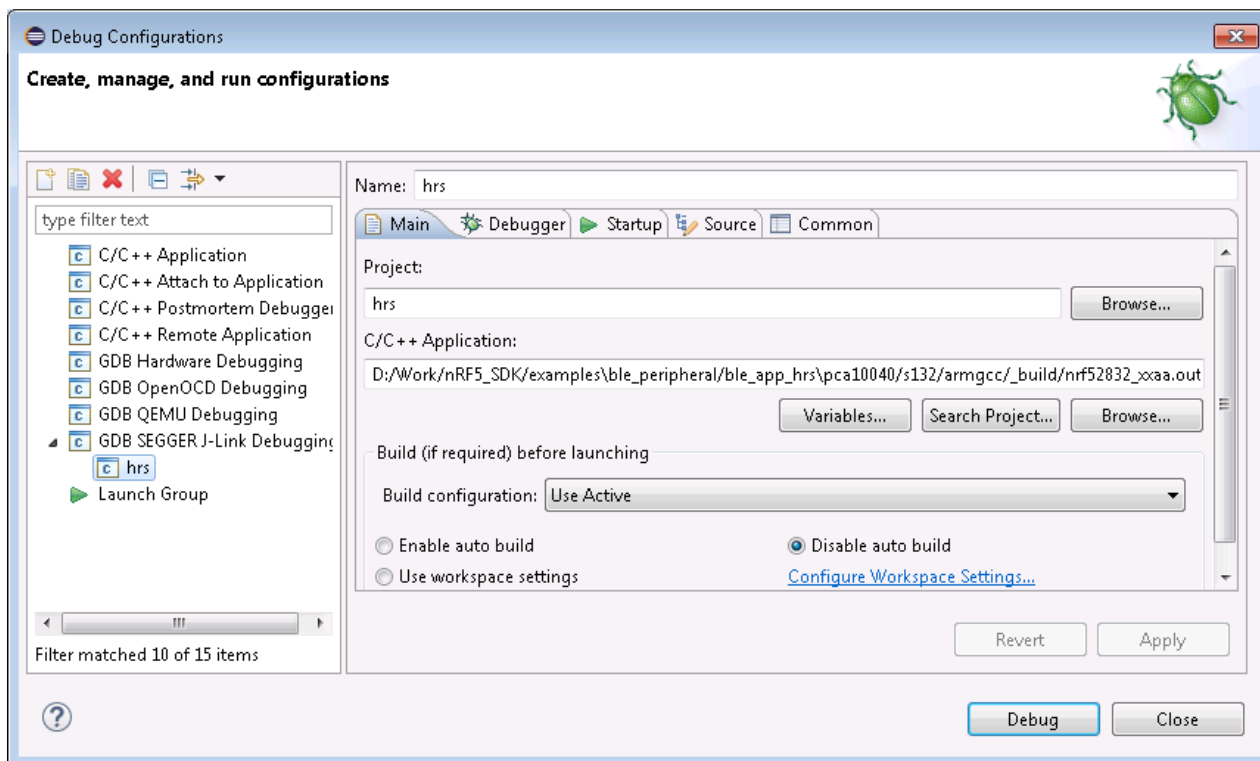

Figure 26: Debug Configurations for the hrs app
6. Select **Disable auto build** (Figure 26).